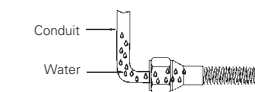
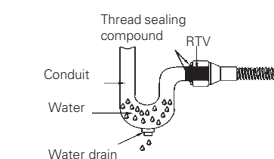

Figure 1. Incorrect
Figure 2. Correct
- All conduit connected electrical devices, including GO® Switches, must be sealed against water ingress through the conduit system. In figure 1, something common has occurred, the conduit system has filled with water. Over a period of time this may cause the switch to fail prematurely. In figure 2, the termination of the switch has been carefully filled with electronics grade RTV to prevent water ingress and to prevent premature switch failure. A drip loop with provision for water to escape has also been installed.